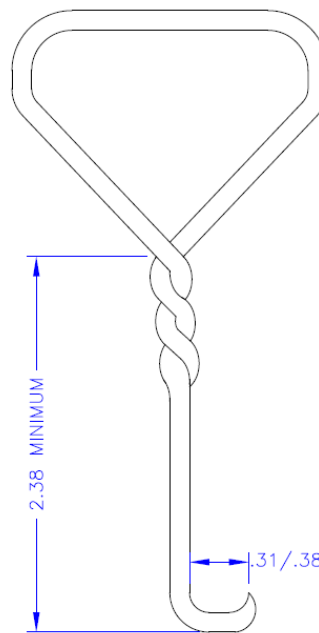

FIG. 1
7.0 SPECIAL TOOLS: From heavy stiff wire approximately 1/8" diameter fabricate a hook to pull the brush spring back. Sample Below FIG 1.
To remove a brush slip the brush hook (FIG. 1) under the brush spring. Slowly lift the spring only enough to clear the top of the brush, then pull the spring away from the brush just enough to slide the brush from the brush holder. Pull the spring away from the brush
REPLACEMENT: Slip the brush hook (FIG. 1) under the brush spring. Slowly lift the spring only enough to clear the top of the brush holder, then pull the spring away from the brush holder just enough to slide the brush into the brush holder. After the brush is in the holder place the spring lightly on the brush. Do this for each (2) carbon slab. Repeat this for all four brushes.